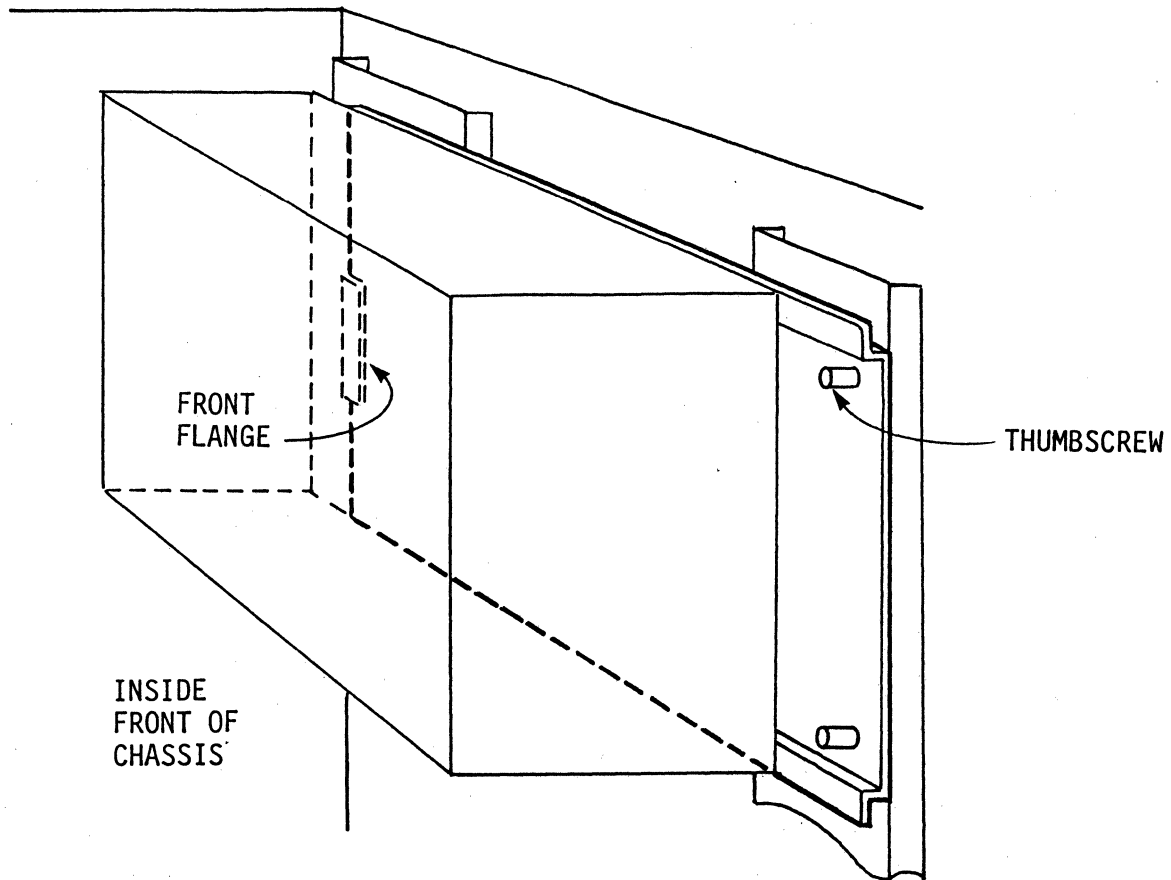

FIGURE 2-3: MOUNTING FLOPPY DRIVES INTO CHASSIS
3. Slide the drive mounting bracket under the front flange, and secure the rear of the bracket with the thumbscrews as shown in Figure 2-3.
5. Slide the mounting bracket under the front flange in drive location A (Figure 2-3) and secure the bracket at the rear with thumbscrews.